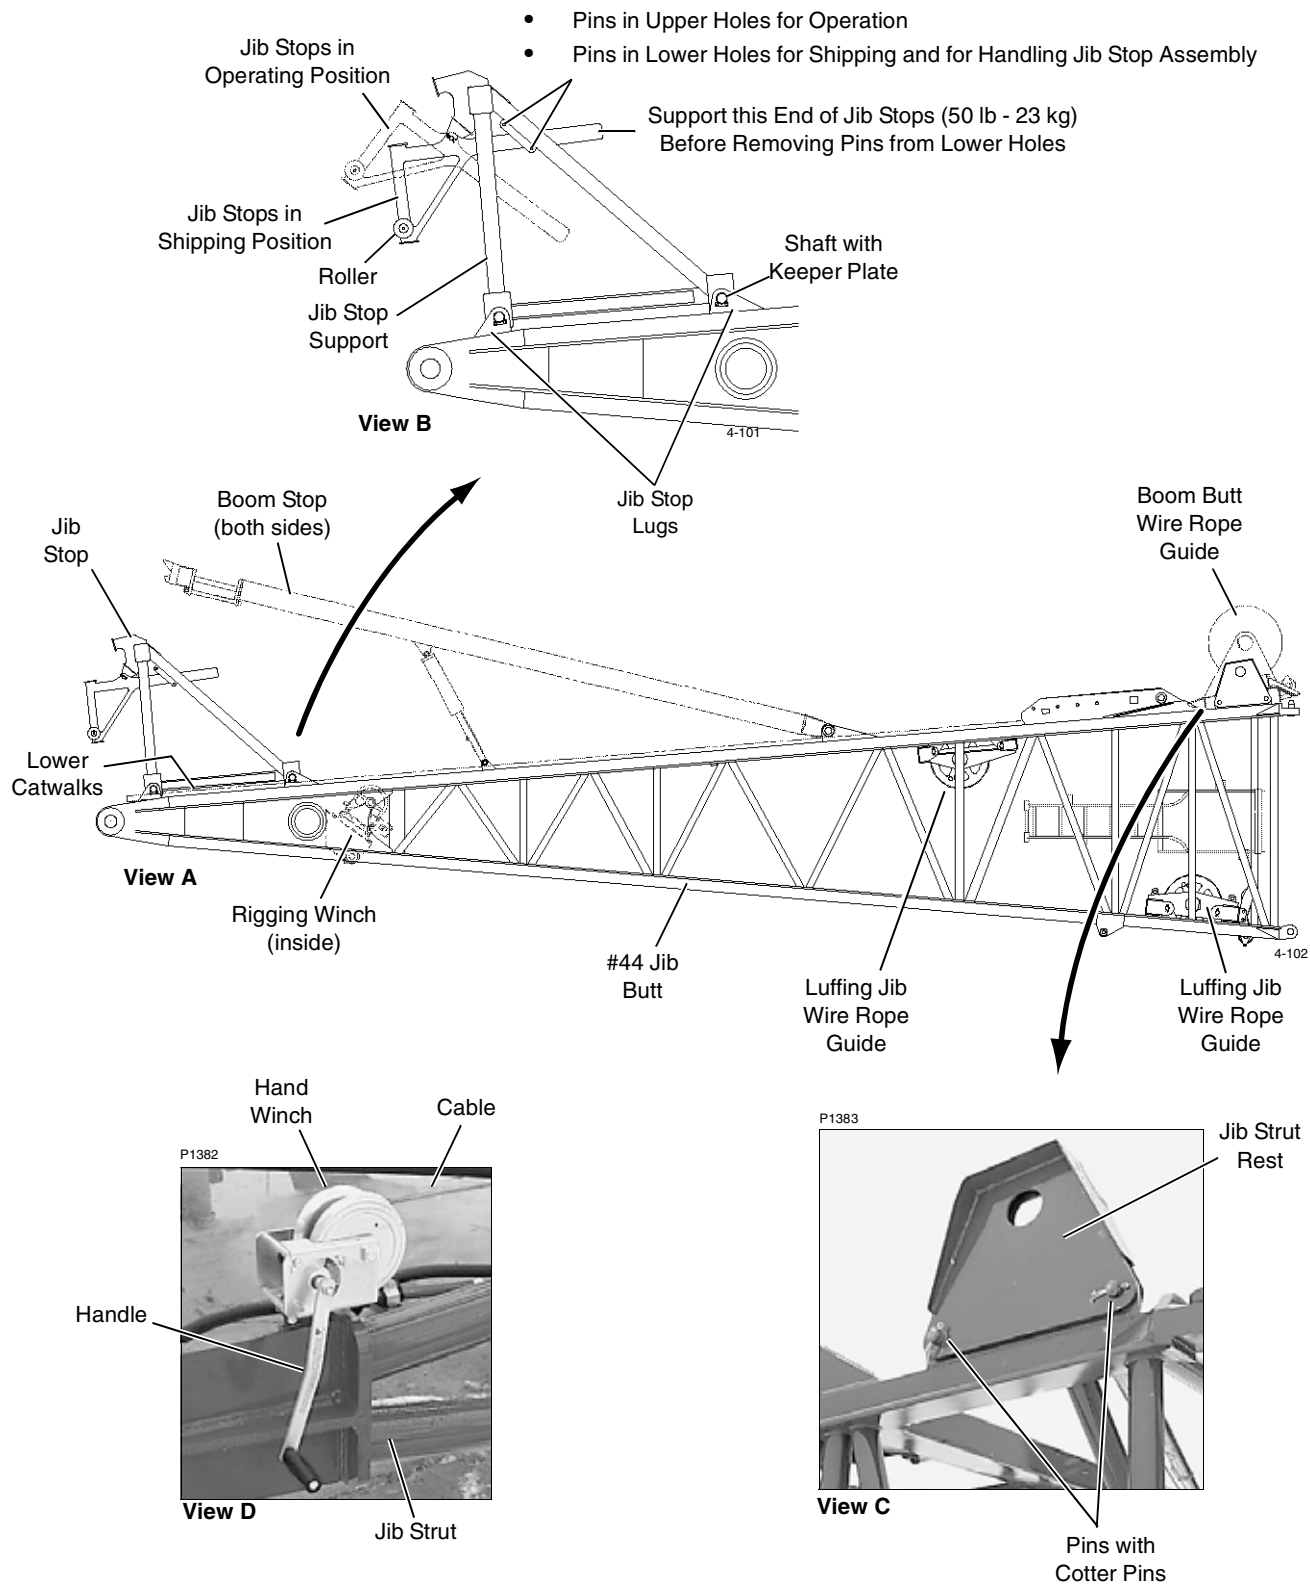

FIGURE 4-5
3. Swing boom in-line with crawlers and lower boom point onto blocking approximately 54 in (1,4 m) high as shown in Figure 4-5, View A. This will allow you to assemble jib on blocking approximately 6 in (152 mm) high.
9. Attach jib stop assembly to lugs on jib butt with shafts and keepers plates (Figure 4-5, View B).
10. Pin jib strut rest to lugs on jib butt (Figure 4-5, View C).
11. Attach hand winches to jib strut if necessary (Figure 4-5, View D).